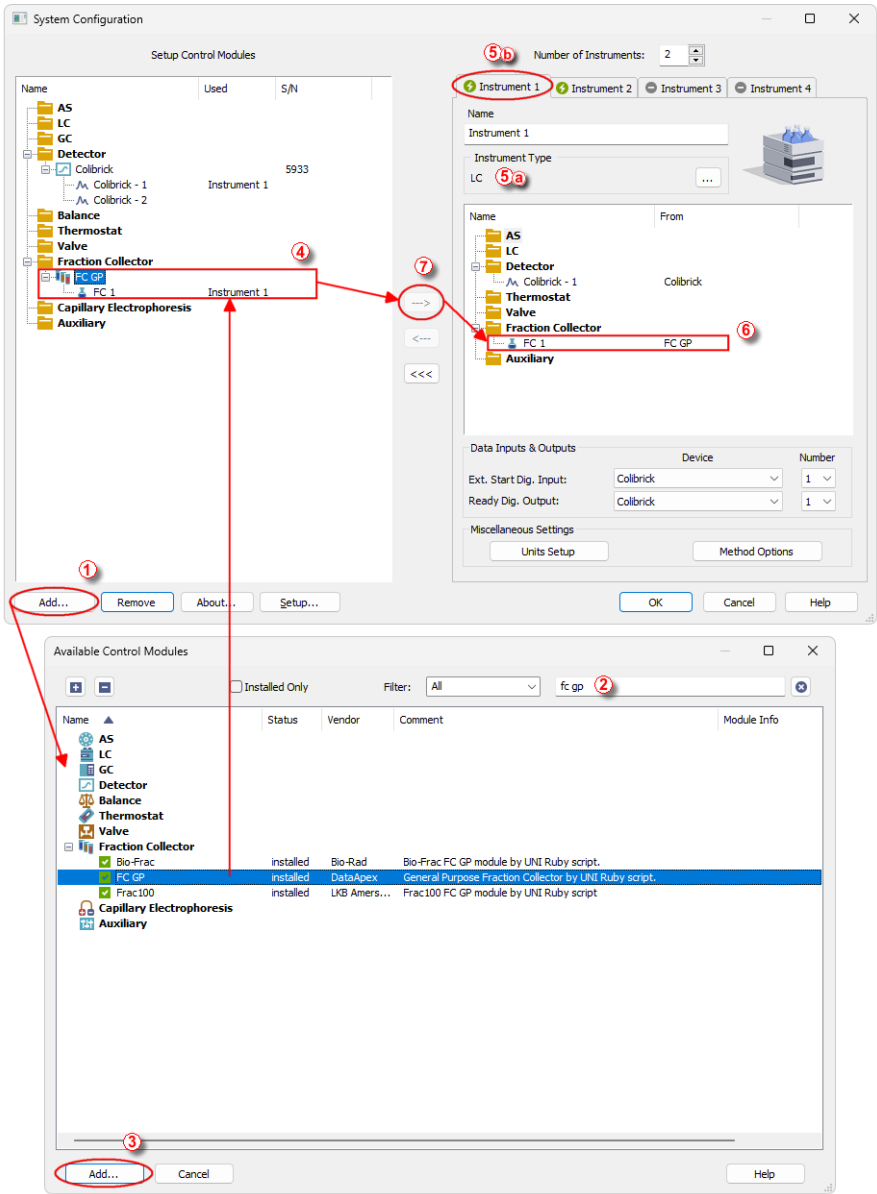

Fig. 2: System Configuration - adding the FC GP
- Press the **Add** button ① (See **Fig. 2** on pg. 4.) to invoke the **Available Control Modules** dialog.
- You can specify the searching filter ② to simplify the finding of the driver.
- Select the **FC GP** and press the **Add** ③ button.